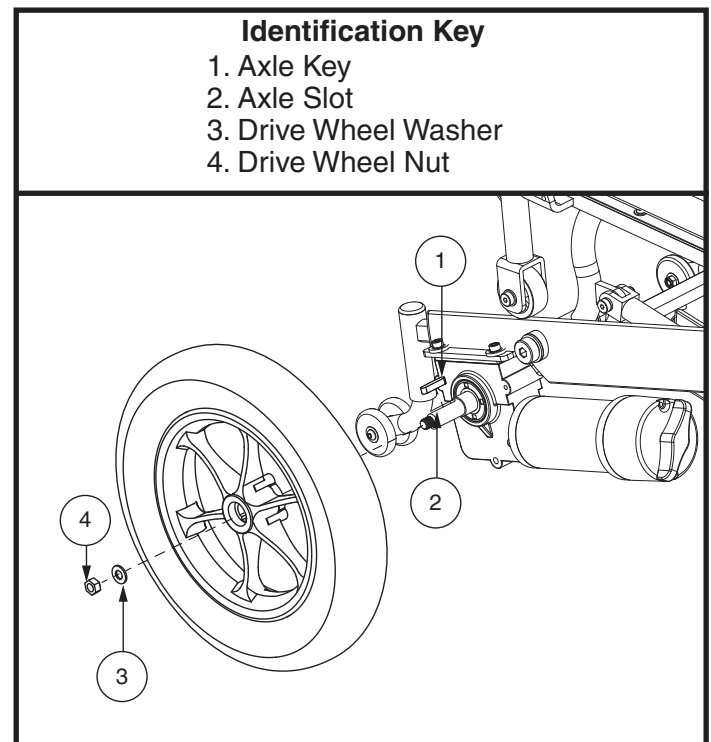

Figure 15. Drive Wheel
3. Remove the drive wheel nut and washer from the axle. **See figure 15.**